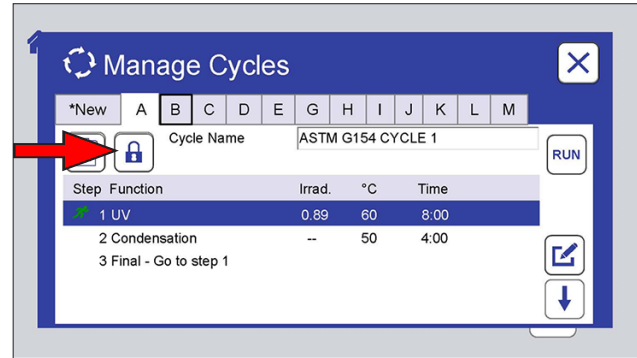
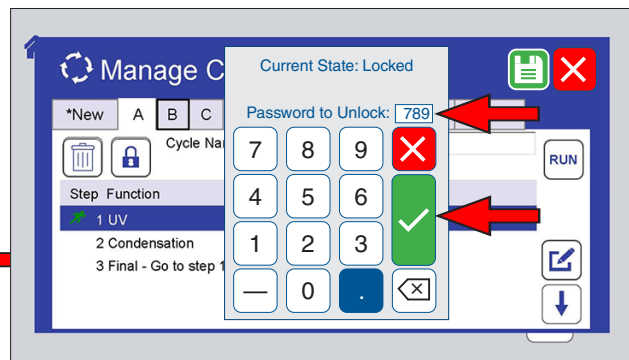

Figure 9.6.3a: Touch the lock icon to lock the cycle.
Figure 9.6.3e: To unlock a cycle, touch the lock icon, enter the password, then touch the check mark button.
- o Lock a cycle to prevent unauthorized changes (Figure 9.6.3a through Figure 9.6.3e).